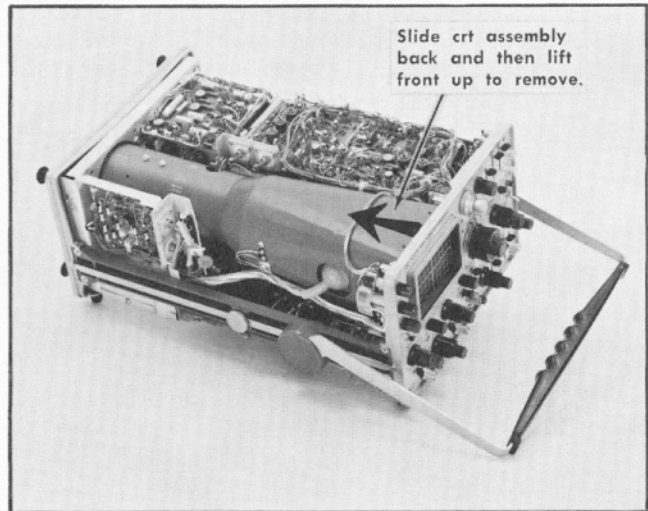

Fig. 4-2. Removing the cathode-ray tube.
11. Slide the crt assembly to the rear of the instrument until the faceplate clears the mounting studs. Then, lift the front of the crt assembly up and slide it out of the instrument (see Fig. 4-2).